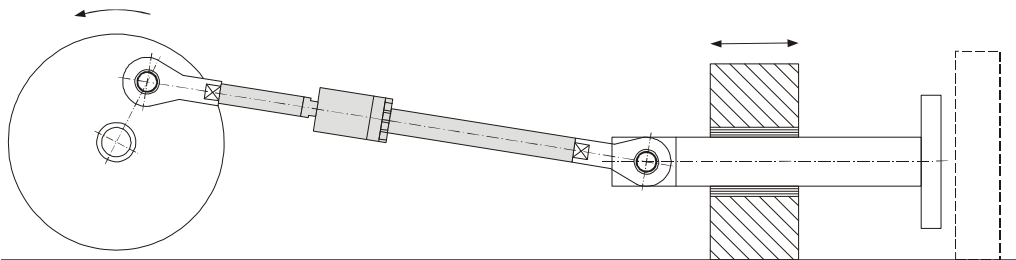

Fig. 2
- Application examples (Figs. 2 and 3)